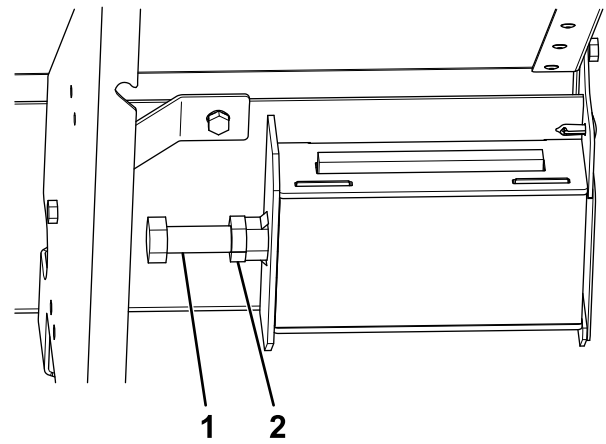

Figure 27
4. To adjust the tension, loosen the jam nuts on the sides of the spreader (Figure 27).